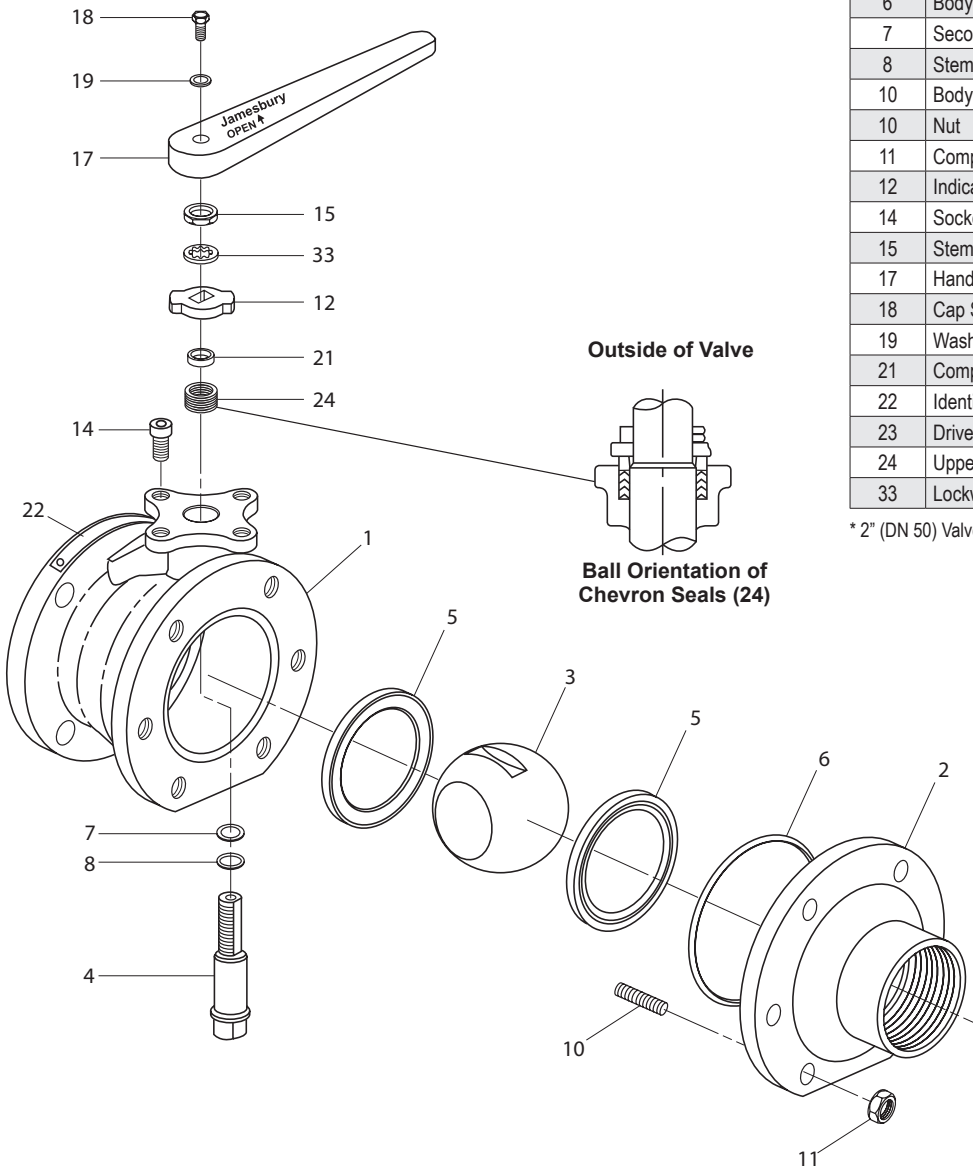

Figure 1.
1. Standing the body (1) carefully on end, drop in one seat (5) with the flat surface on the bottom. See exploded view (**Figure 1**).
2. Inset the secondary stem seal (7) and the bottom stem seal (8) into the body from the inside (see **Figure 1**). Insert the stem (4) from inside the valve body through the seals and bonnet of the valve. Next, insert the top stem seal (24), the compression ring (21), and the indicator stop (12) making sure that the side marked "BOTTOM" is down. Add lockwasher (33), and screw on the stem nut (15) with the side marked "TOP" being up.
4. Insert the ball (3) rotating it onto the stem (4) in the closed position. Gently rock the ball to make sure the stem is centered in the ball slot (see **Figure 1, stem-to-ball location**).
5. Gently press the body seal (6) into the machined recess of the body (1).
6. Insert the second seat (5) into the body cap (2) so that the sealing surface of the seat is toward the ball (see **Figure 1**).
7. Insert the body cap (2). Lubricate the nuts and studs with Never-Seez® or equivalent. Install nuts (11) on the body studs (10) and tighten sequentially as shown in the sequential diagram and torque chart.